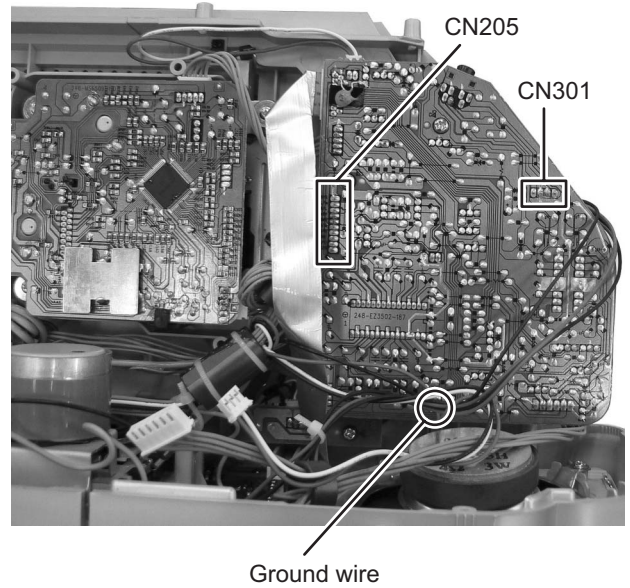

Fig.5
### 3.1.2 Removing the Top cabinet assembly (See Fig.5, 6)
- (1) Disconnect the connector wire from Cassette mechanism assembly connected to connector CN205 of the Amplifier board assembly. (See Fig.5)
- (2) Disconnect the connector wire from speaker connected to connector CN301 of the Amplifier board assembly. (See Fig.5)
- (3) Remove the solder the grand wire from Cassette mechanism assembly soldered to Amplifier board assembly. (See Fig.5)